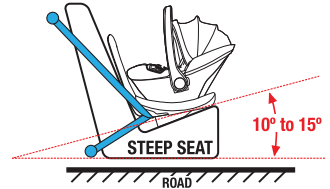

Figure 2
NOTE: Some vehicle seats are steeper than others refer to Figures 2 and 3 for the correct recline.
Step 4: Open belt clamp (refer Figure 2 & 3).